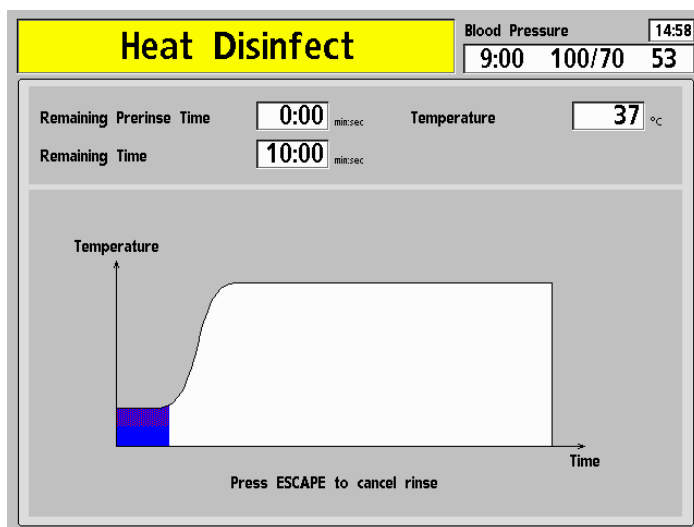

Figure 54 – The Heat Disinfection Screen
2. From the “Select Program” screen, touch **Heat Disinfect** to start the Heat Disinfect program. The “Heat Disinfect” screen appears in the control panel display (see Figure 54). If the machine was not rinsed prior to this, it will automatically run a short rinse (seven minutes) or an extended rinse (20 minutes) depending on how the machine was configured in Service Mode.